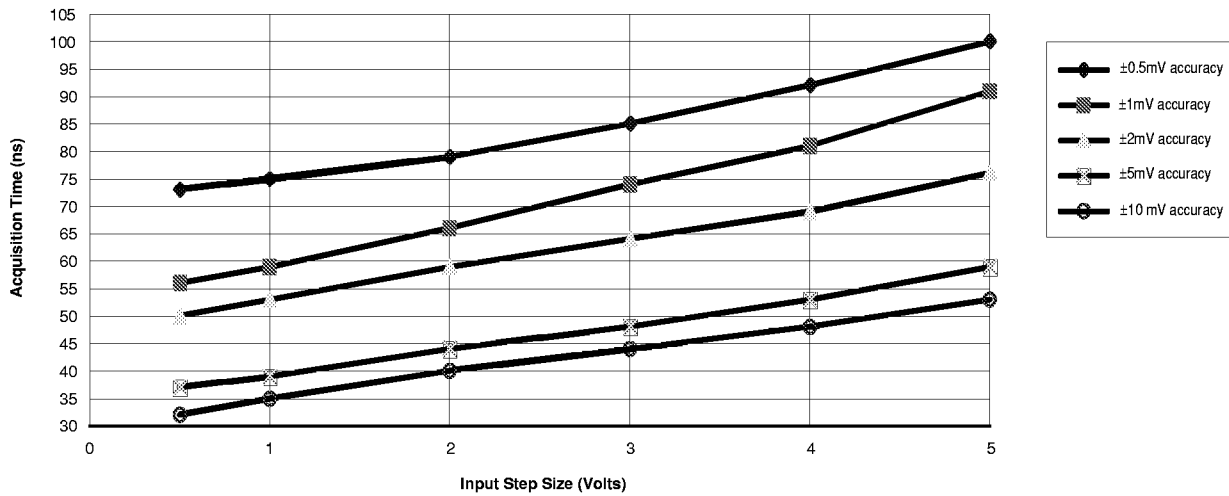

Figure 4. Acquisition Time versus Accuracy and Step Size
- See Figure 4 for acquisition time versus accuracy and input voltage step amplitude.
As shown in the plot (Figure 4) of acquisition times vs. input signal step size, the S/H's internal to the CDS-1402 acquire smaller-amplitude signals quicker than they acquire larger-amplitude signals. In "maximum-throughput" applications, assuming "asymmetric" timing can be accommodated, each S/H should only be given the time it requires, and no more, to acquire its input signal. Leaving a S/H amp in the sample mode for a longer period of time has little added benefit.